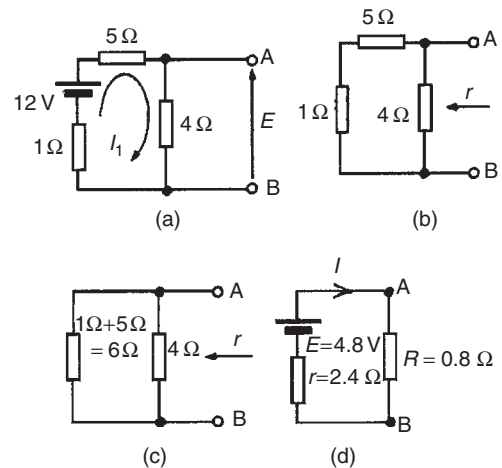

Figure 13.40
- (i) The 0.8 Ω resistor is removed from the circuit as shown in Fig. 13.40(a).
P.d. across 4 Ω resistor = $4I_1 = (4)(1.2) = 4.8\text{ V}$. Hence p.d. across AB, i.e. the open-circuit voltage across AB, $E = 4.8\text{ V}$
- (iii) Removing the source of e.m.f. gives the circuit shown in Fig. 13.40(b). The equivalent circuit of Fig. 13.40(b) is shown in Fig. 13.40(c), from which, resistance
- (iv) The equivalent Thévenin's circuit is shown in Fig. 13.40(d), from which, current